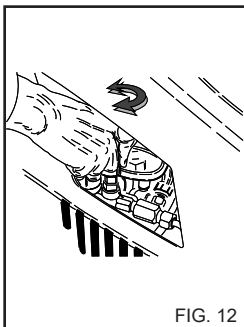

FIG. 12
This chapter concerns only those models provided with the "pressure regulating" device. The pressure regulator, fig. 12, allows the operator to adjust the working pressure. When knob C is turned in an anti-clockwise direction (B) (minimum), the working pressure is reduced.